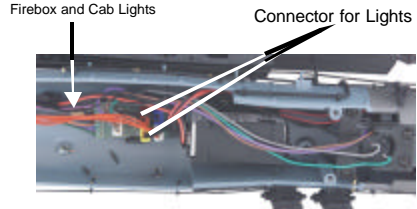

Figure 9
2. Unplug the appropriate wires from their connector (see figure 9).